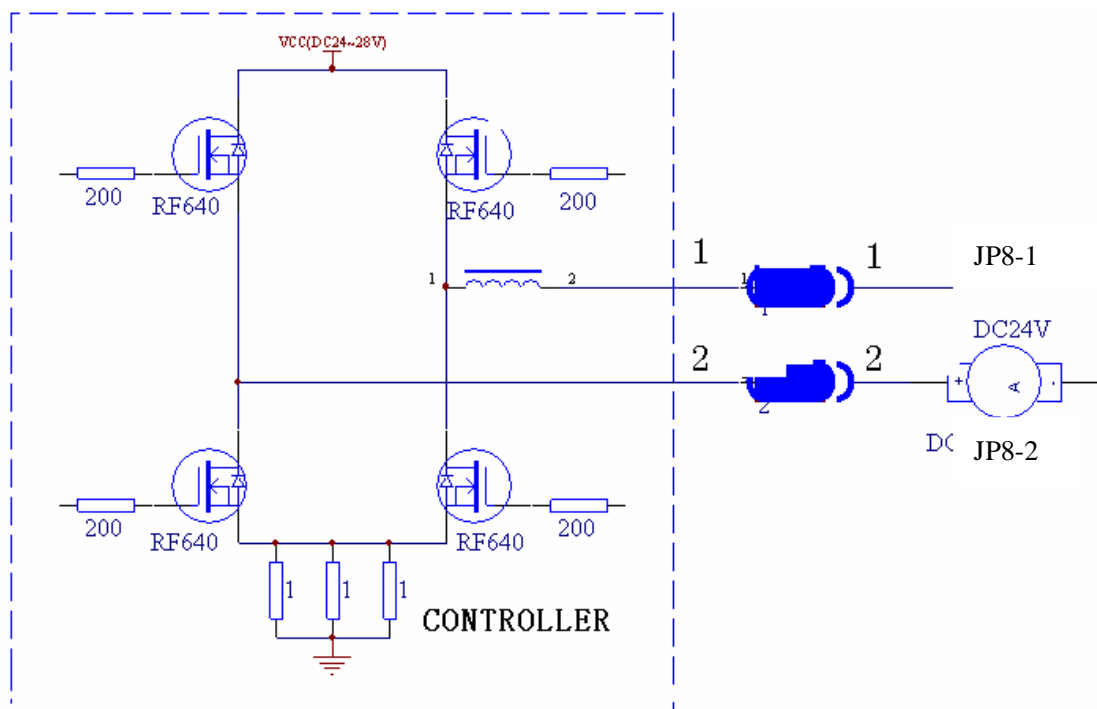

Fig.33: Drive motor output
- 2、 The port connected to the plasma cutting torch. The mark of aviation socket is CON-GUN. The motor output port as fig. 33.